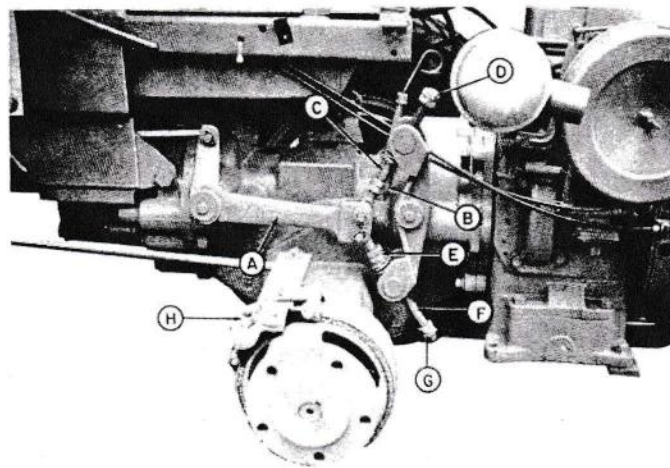

Figure 62
The brakes are adjusted by tightening or loosening the nut (H, Figure 62) of the brake band assembly on the brake support. Do not overtighten as dragging brake bands will rob power and cause rapid wear of the brake linings. To adjust: tighten the nut until the bands are dragging, then loosen $\frac{1}{2}$ turn.
Move the jam nuts (G, Figure 62) closer to the clutch lever for a more sensitive adjustment or closer to the end of the clutch rod (F) for a less sensitive adjustment. Adjust the jam nuts (B) so when the level is in the high or (2) position, there is approximately .010 inch gap between the coils of the spring.
Move the jam nuts (D, Figure 62) closer to the clutch lever for a more sensitive adjustment or closer to the end of the clutch rod (C) for a less sensitive adjustment. Adjust the jam nuts (E) so that when the lever is in the low or (1) position, there is approximately .010 inch gap between the coils of the spring.